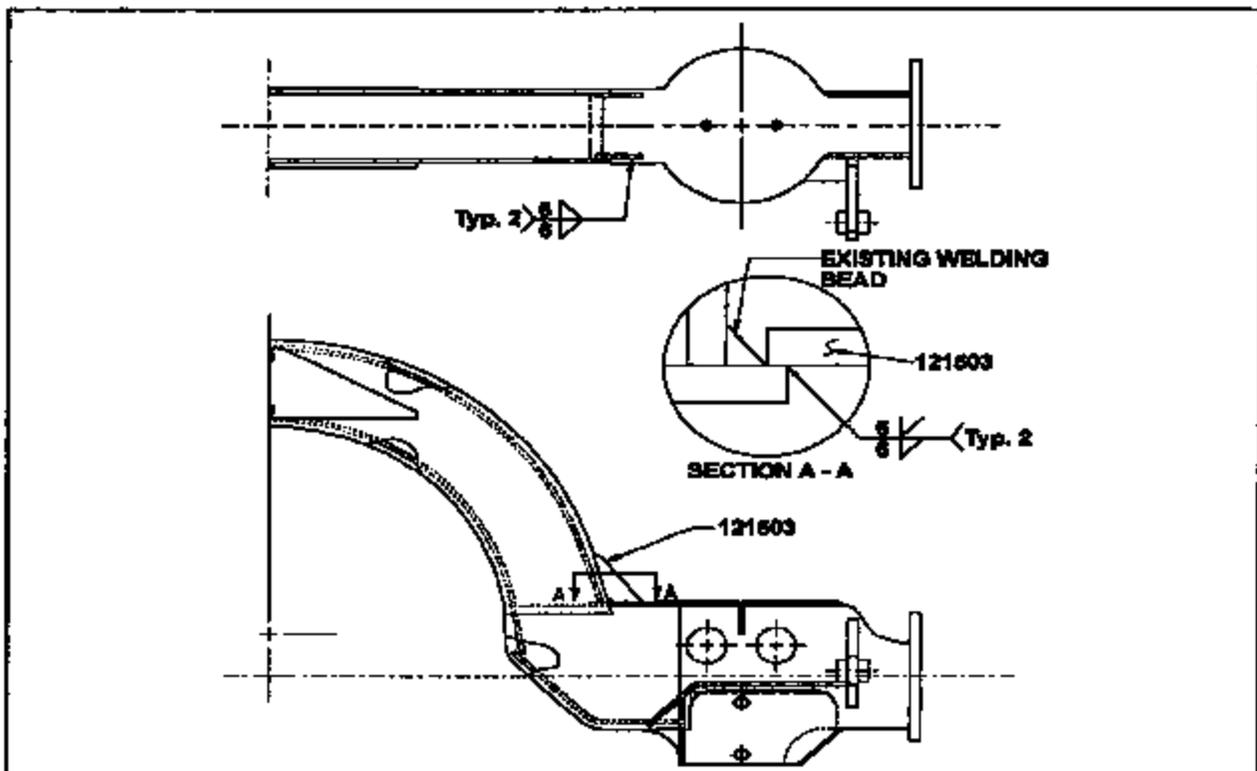

FIGURE 1
2. Remove asphalt base undercoating (Gravel Guard 3M) and any rust present near the risk or affected area, the risk areas are the joints between axle arch and sub-assemblies (refer to figure 1).
3. Check if tag axle is cracked, check if cracks are superficial by grinding the affected area to make the cracks disappear. If cracks are only superficial, chip off or grind to bare metal then reweld crack referring to paragraph: Steel – Steel Welding. Weld reinforcement parts referring to figure 1 welding specifications
4. If no cracks are present on tag axle, weld reinforcement parts referring to figure 1 welding specifications.
- Weld reinforcement parts as per figure 1 and refer to welding specifications indicated in paragraph: **Steel – Steel Welding:**